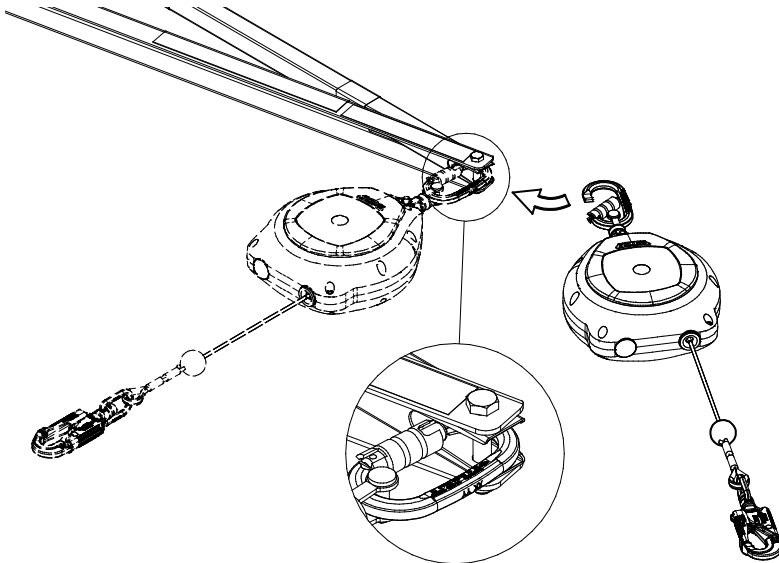

Figure 29. Attaching the 6,2m Fall Arrest Block.
- 10.2 Connect the Fall Arrest Block. Make sure that the component is correctly attached and secured to the SkyReach Anchor point. Figure 29 shows how the 6,2 m Falcon Fall Arrest Block is attached to the anchor point.